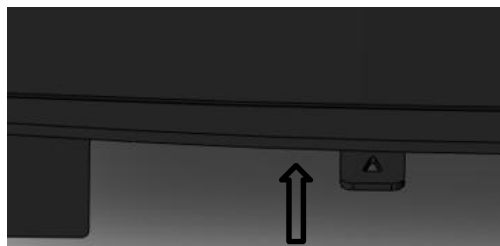

Fig. 7. Fully Closed Position
- To **shut down or reduce** the air supply, slide it to the left (see figure 7).